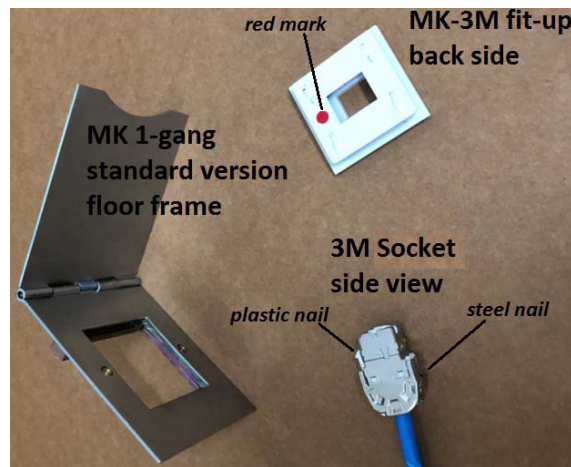

Figure 1.
**M&I (Mastering & Innovation Est.)** has developed and manufactured several complex customized products for the local market in the field of wiring devices. In this leaflet we will be elaborating installation steps for the “**MK-3M fit-up**” unique product / solution. Please refer to (Figure 1) to familiarize yourself with the main parts to be matched: